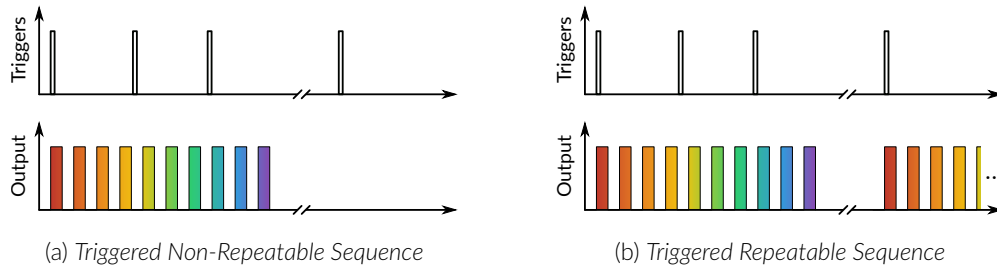

Figure 5.3: Uninterrupted Sequence Mode
- **Uninterrupted:** This mode activates the channel sequence when an input greater than 3.3 V is detected by the BNC input. Following input pulses will be ignored while the sequence is running (Fig. 5.3). When the **Repeatable sequence** checkbox is checked, the sequence will restart with the arrival of the first input pulse after the sequence has finished (Fig. 5.3b). This mode is available for *Triggered* pulse only.